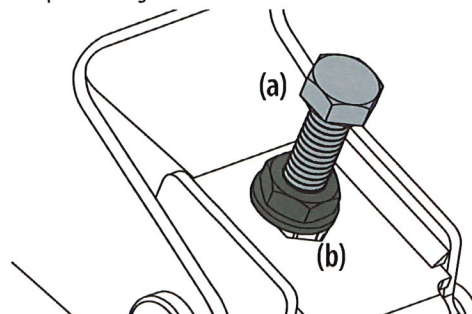

Figure 30
3. Locate the adjustment bolts (a) on the left and right side of the deck. See Figure 30.
4. Loosen, but do not remove, the jam nuts (b) on the adjustment bolt. Adjust either the right or left adjustment bolt up or down as necessary until the side-to-side heights are equal. See Figure 30.
5. When proper adjustment is achieved, re-tighten the jam nuts (b). Tighten to 57 ft-lbs (77 N-m). See Figure 30 on page 25.